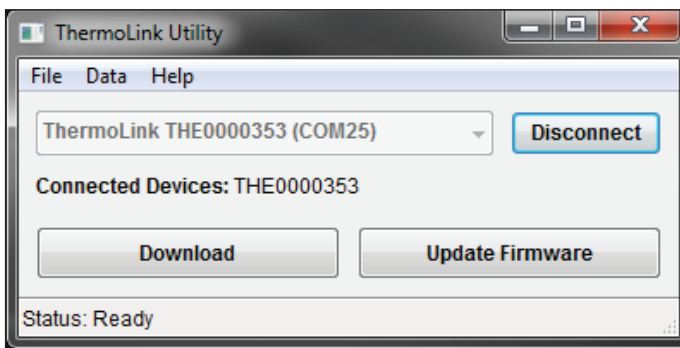

Figure 20 THERMOLINK Utility downloader
Once the downloader is installed, THERMOLINK Utility will open a new window (Figure 20). The software can now be used to download data from THERMOLINK.
2. Once connected, the controller serial number will appear in the THERMOLINK Utility dropdown (Figure 20).
5. Press Download to download the data stored on the controller (Figure 20).
5. Click the Update Firmware button in the THERMOLINK Utility screen (Figure 20).